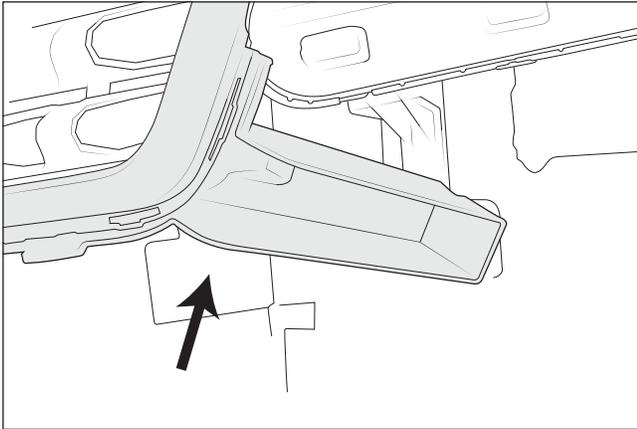

Figure 2
- A. Use AEV template (AEV30316) applied to the bottom of the grill supports to mark and drill a hole on each side (fig. 2).